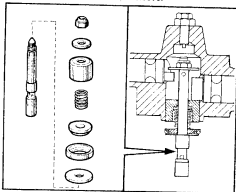

Fig.22 - Metering valve assembly
31. Assemble the metering valve components as shown in Fig. 22 using Assembly rod 18G637, inserted through the hole in the valve stem to hold the assembly when tightening the nut.